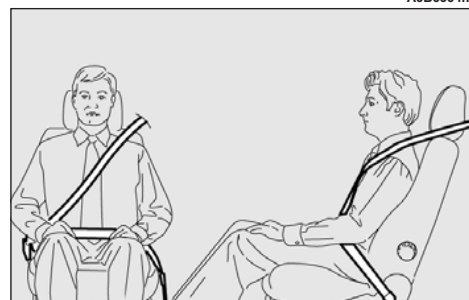

fig. 52
*The seat belt must not be twisted and should cling tightly to the body. The upper part must pass over the shoulder and diagonally across the chest. The lower part must rest across the pelvis and not across the stomach to eliminate the risk of sliding forwards (fig. 52). Do not use devices (clips, stoppers, etc.) which keep the belts away from the body.*